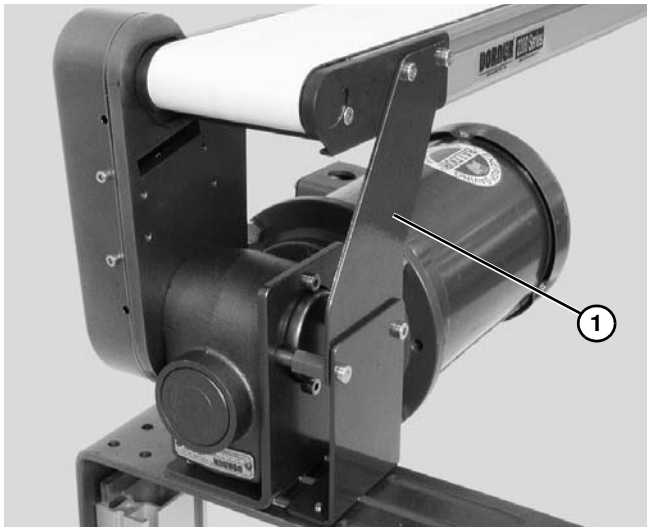

Figure 68
5. If equipped with a heavy load drive package, install drive support bracket (**Figure 68, item 1**).